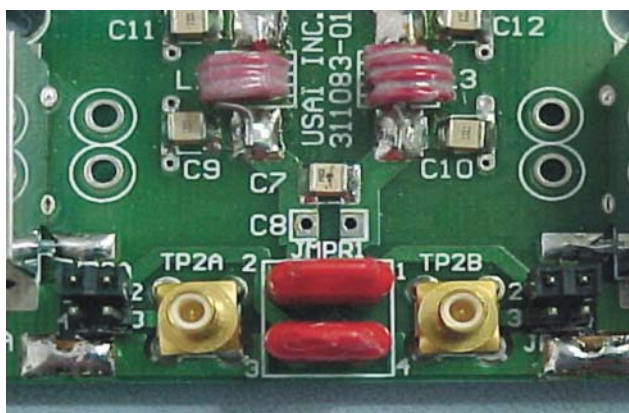
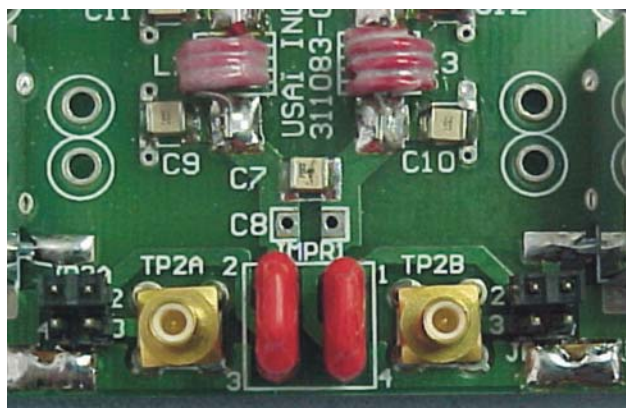

Figure 20: Anti-quadrature orientation.
Figure 21: Quadrature orientation.
Step 6 – Change the orientation of the Red shorting jumpers. Refer to *Figure 20* for before orientations, and *Figure 21* for after orientations.
Step 8 – Change the orientation of the Red shorting jumpers. Refer to *Figure 21* for before orientations and *Figure 20* for after orientations.
Step 10 – Change the orientation of the Red shorting jumpers. Refer to *Figure 21* for before orientations and *Figure 20* for after orientations.